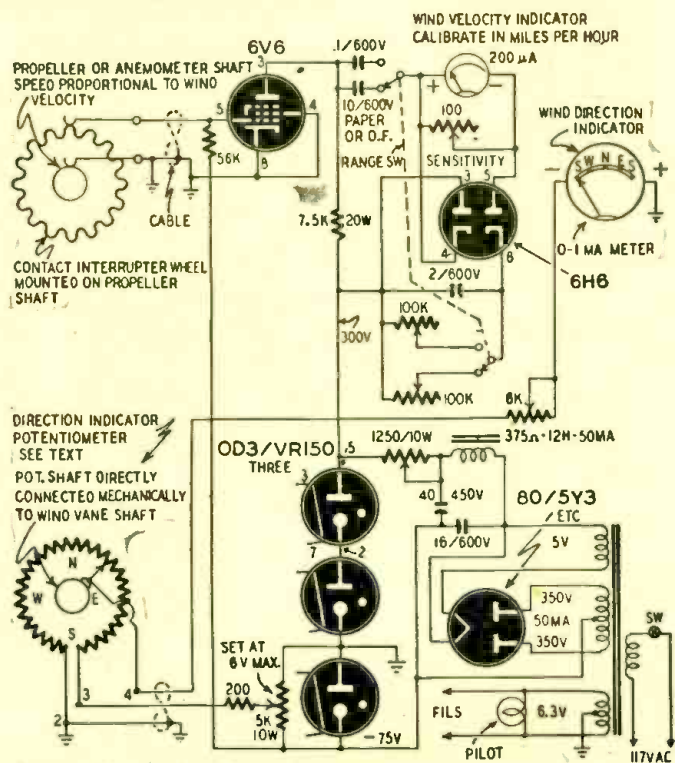

Fig. 1—The wind indicator is accurate for low and strong winds.
A. Fig. 1 is the diagram requested. The contact interrupter wheel, in the velocity indicating circuit, is a small gear or commutator mounted on the shaft of an anemometer. Its purpose is to break the connections between the 6V6 grid and ground from 10 to 20 times per revolution of the shaft. One break per revolution will suffice if larger condensers and resistors are used in the range switch circuit.